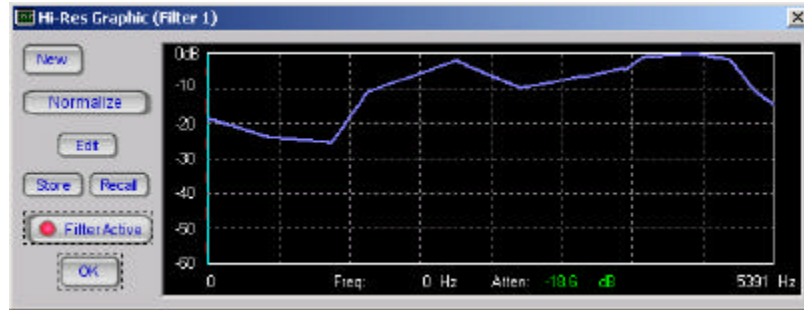

Figure 4-58 Normalized Hi-Res Graphic Filter
10. Normalizing the filter places the highest point on the filter curve at 0 dB. Doing so minimizes loss in the filter and preserves system dynamic range. Now normalize the filter curve to 0dB by clicking the **Normalize** button. You should see the mouse cursor change to the "hourglass" shape for a few seconds; when the normalization calculations are complete, the filter shape should appear as follows (Figure 4-58):